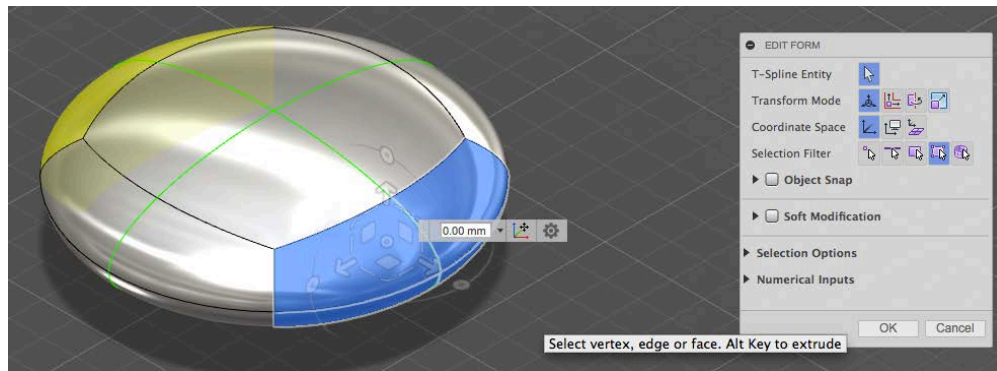

Fig. W02
- a. Set Selection Filter to “face” and select right 4 faces (Fig. W02).